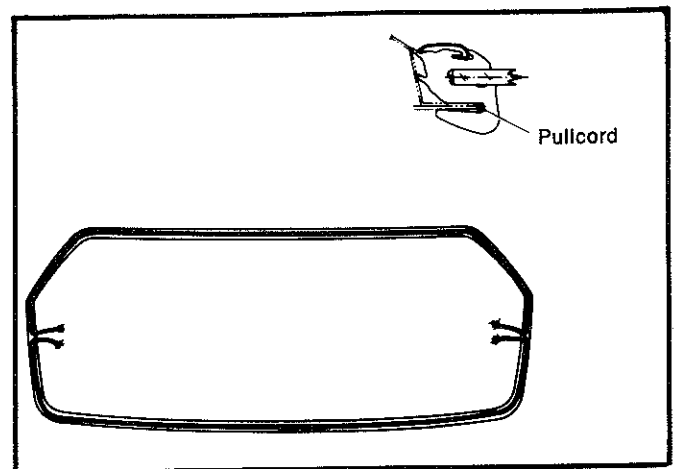

Fig. 16—Positioning cord into weather strip
- (3) Using two lengths of strong cord, install the cord into the weather strip body flange rebate with the ends of the cord positioned as shown in Fig. 16. Ensure both ends of the cord overlap both sides of the glass.